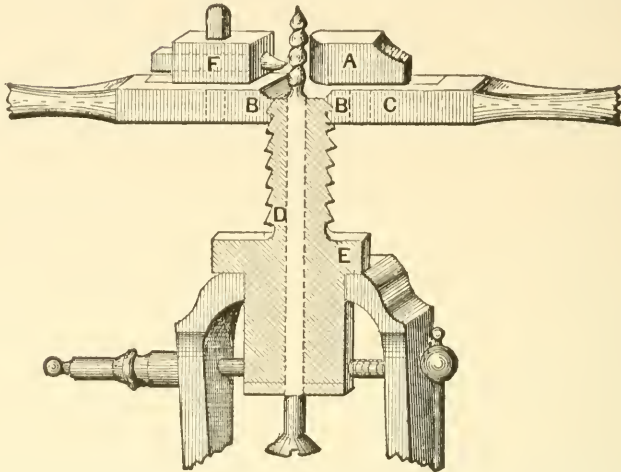

Fig. 145—Attachment to Screw Stock Dies as designed by "W. D."
*C*, in Fig. 145, is the die stock having in it the dies *B B*, with the requisite pitch of thread. On the die stock is fastened a tool post and tool at *F* and a copper steadying piece at *A*. The tool may be made from  $\frac{1}{4}$ -inch square Stubbs or Crescent steel carefully filed to the shape of the thread to be cut and carefully tempered. *E* is a steel sleeve screwed with a thread of the same pitch and sawn through its axis one way to point *D*, and the spring tempered in oil.